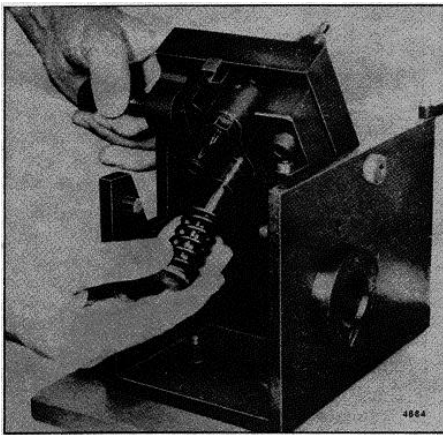

Fig. 24. Removing or Installing Plunger Follower, Plunger and Spring
3. Refer to Fig. 24 and remove the plunger follower, plunger and spring as an assembly.